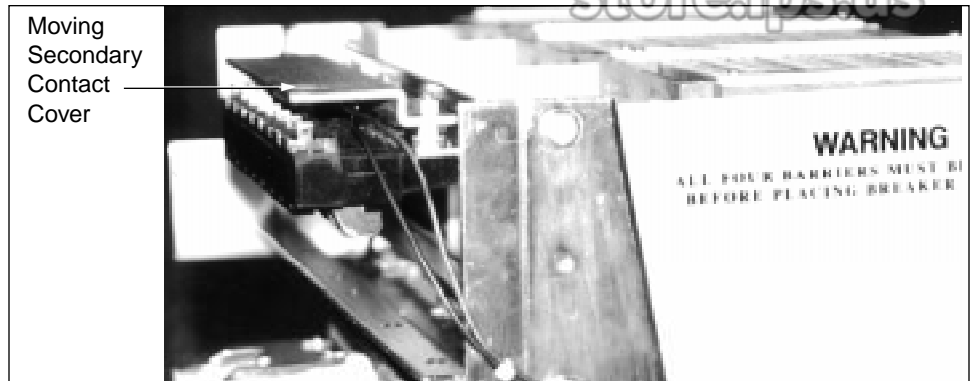

Figure 11: Moving secondary contact cover
- Mount the moving secondary contact cover using the supplied hardware as shown in Figures 11 and 12.